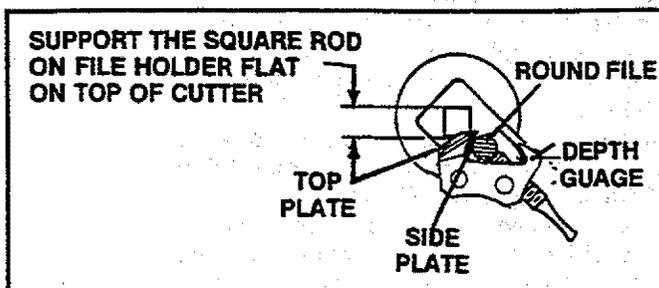

Figure 20
3. Support the square rod on the file holder (with 5/32" round file) on cutter top plate. Figure 20.